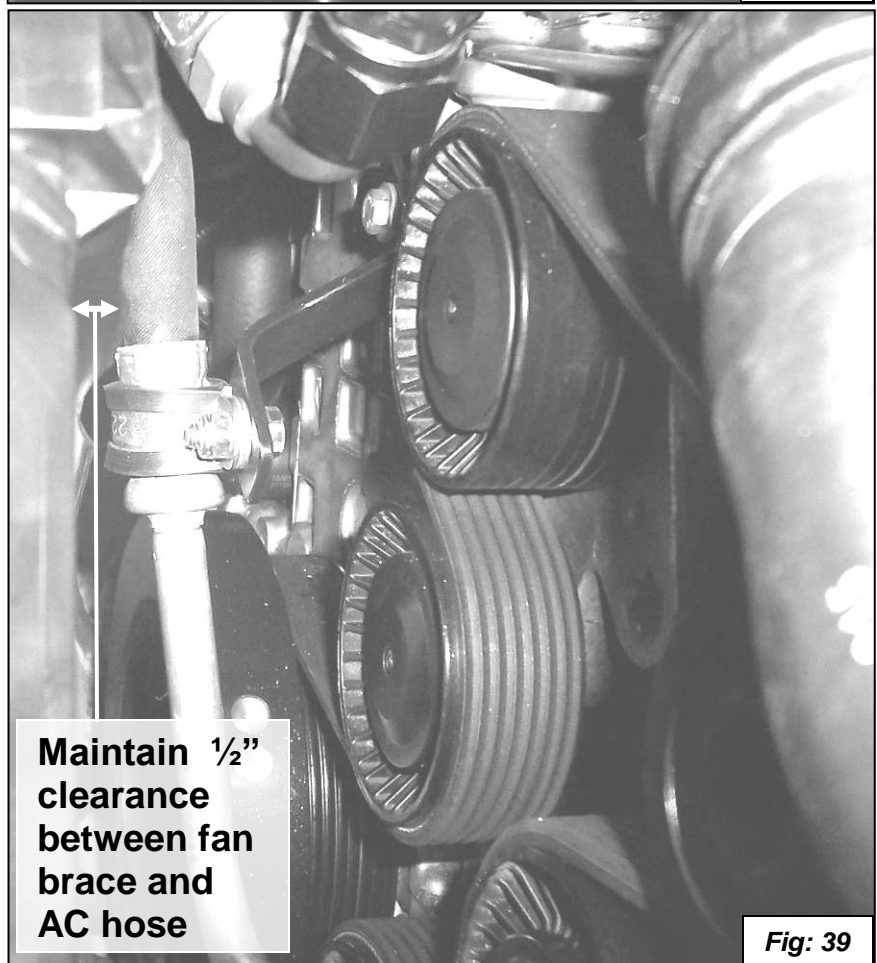

Fig: 39
28. Use the photo below to mount the new **AC Line Support Bracket** with the original bolt. Leave the mounting bolt loose enough that the Bracket can be easily rotated if necessary. The free end of this bracket should be just slightly higher than the mounted end or slightly up from level. Use the enclosed **#22 Loop Clamp, M6 x 16 bolt, M6 wave washer** and **M6 nylok nut** to attach the AC Line to the new Support Bracket. The goal is to lower the AC line about 2-1/2" at the swaged collar below the oil thermostat housing. You may want to leave the two bolts slightly loose until the Oil Lines are installed then tighten them when you are sure there is sufficient clearance, as they will still be easy to reach. Be careful to maintain about 1/2" or more clearance between the AC line and the rear of the auxiliary fan assembly at the closest point. You do not want the AC line to hit the fan assembly during hard braking. See figure 39.